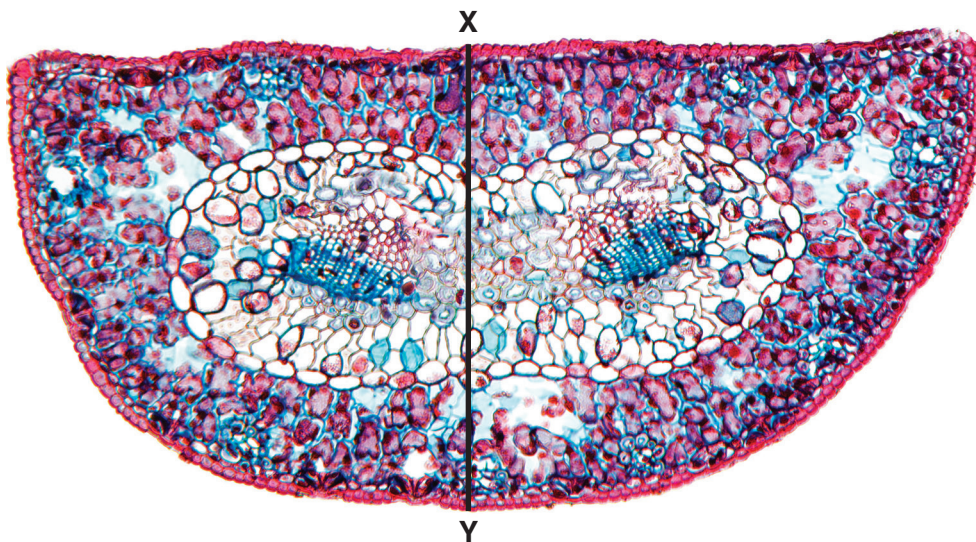

Fig. 2.1
- (b) Fig. 2.1 is a photomicrograph of a stained transverse section through a leaf of a different type of plant.
- (iii) Prepare an appropriate table so that it is suitable for you to record the observable differences between the leaf on **K1** and the leaf in Fig. 2.1.